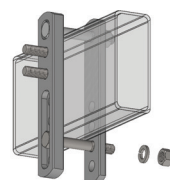

Figure 9
2. Insert the second $\frac{1}{2}$ " x $3\frac{1}{2}$ " bolt through the open hole closest to the bottom of the trailer frame. (Figure 9)